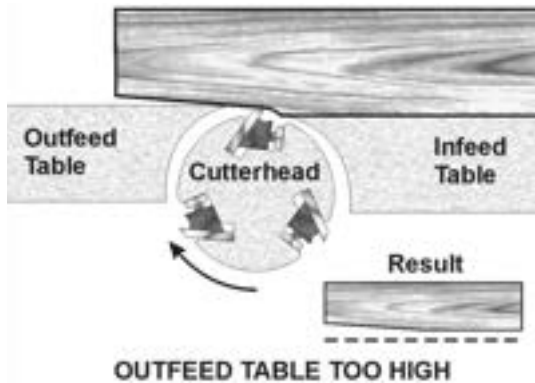

Figure 8-16
*Outfeed table too high* – If the outfeed table is too high, a curved finished surface results (Figure 8-16).